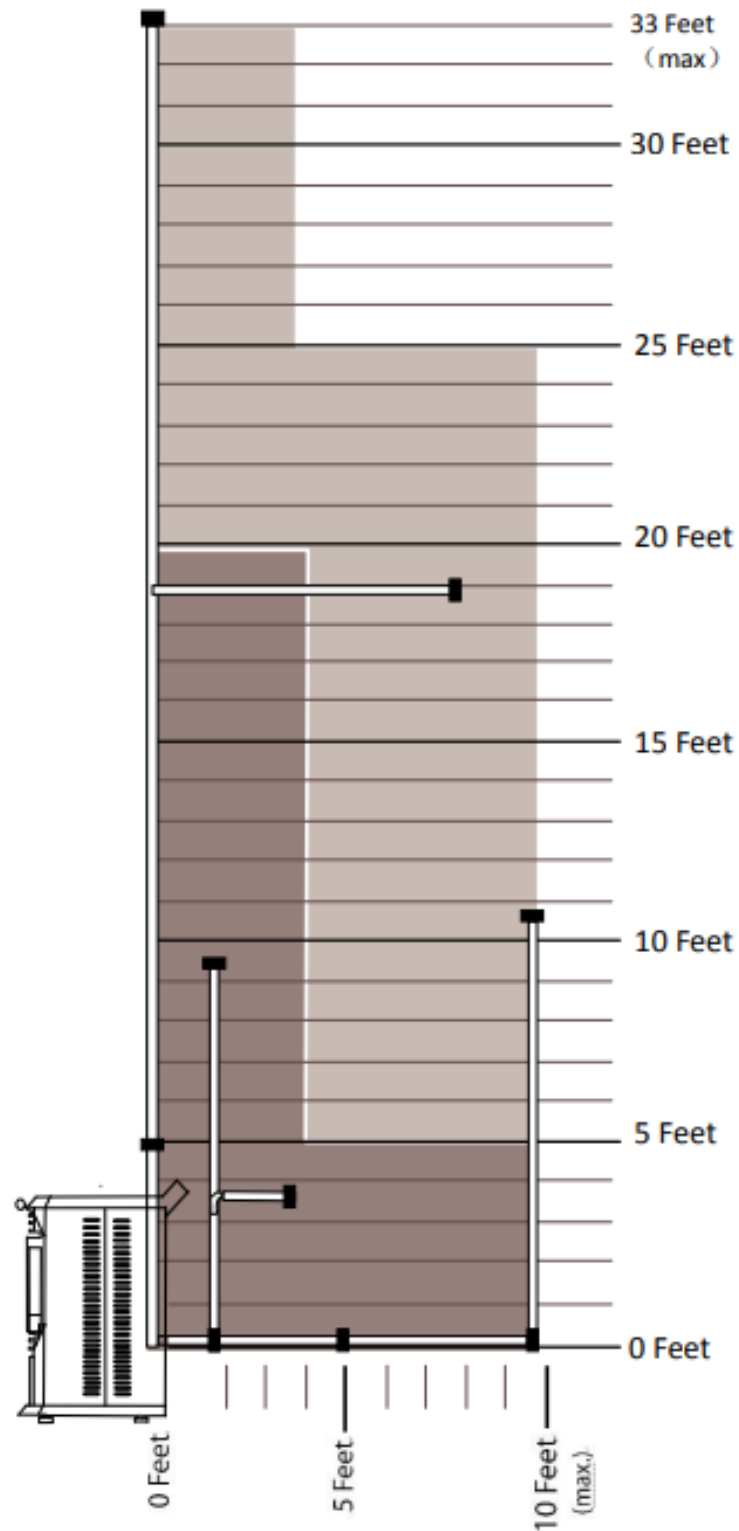

Figure 9: Venting and combustion motor voltage adjustment chart
- The vent height and run must not exceed the distance as illustrated in diagram **Figure 9**.
- **See Figure 9**